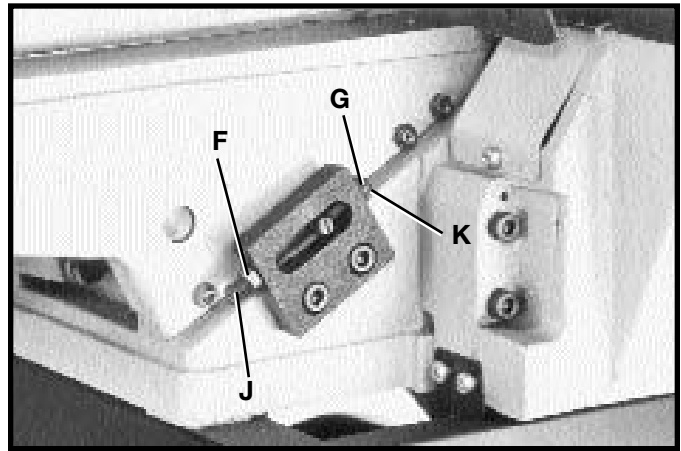

Fig. 37
1. Positive stops are provided to limit the height and depth of the infeed table. To adjust the stops, loosen two locknuts (F) and (G) Fig. 37, and turn the two adjusting screws (J) and (K) as required. Then retighten the locknuts (F) and (G). A good suggestion is to set the upper positive stop (J) for your finish or final cut. This means that you will be able to rapidly set the infeed table for a finish or final cut without checking the scale and pointer. Also the lower positive stop (K) can be set for the maximum 1/2" depth of cut or if you desire to limit the depth of cut, adjust the stop screw (K) accordingly.